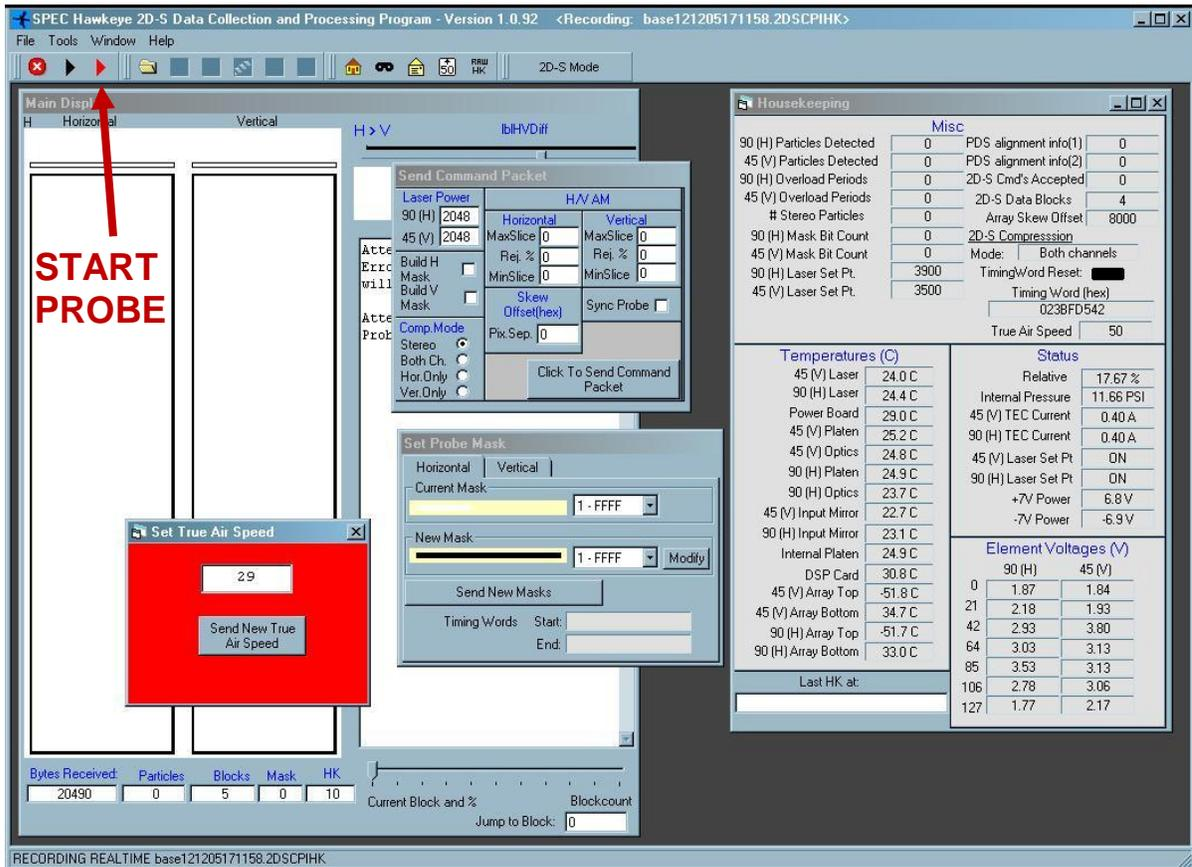

Figure 2.3.6. Startup screen for 2D-S GUI.
- To initialize the connection between the 2D-S GUI and the probe, click the red arrow in the top left corner of the 2D-S GUI display window (**Figure 2.3.6**). Make sure to press the **red** arrow; pressing the black arrow results in monitoring the probe, but not saving any of the data.
2. To disconnect from the 2D-S, click the button with the red circle with an x button (see **Figure 2.3.6**). Once stopped, the 2D-S GUI window may be closed.